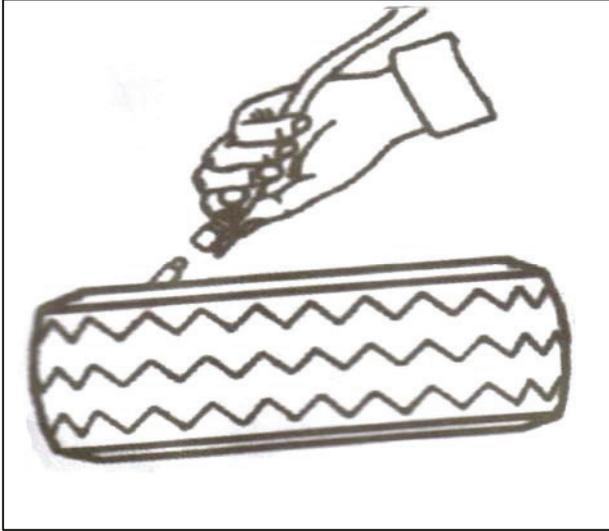

FIG 23
STEP 2: Unclamp the wheel from the turntable. Connect the inflation hose to the tire air core (Fig 23).